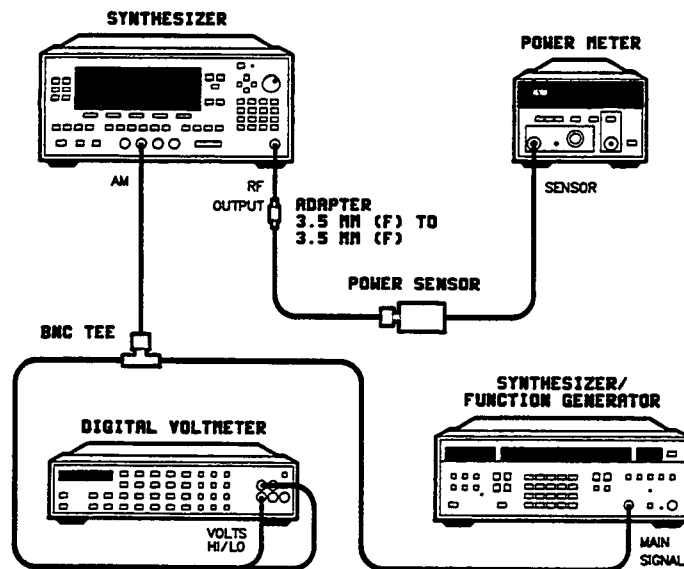

Figure 3-31. AM Accuracy Adjustment Setup
1. Turn on the instruments shown in figure 3-31 and let them warm up for at least one hour.
3. Connect the equipment as shown in figure 3-31.